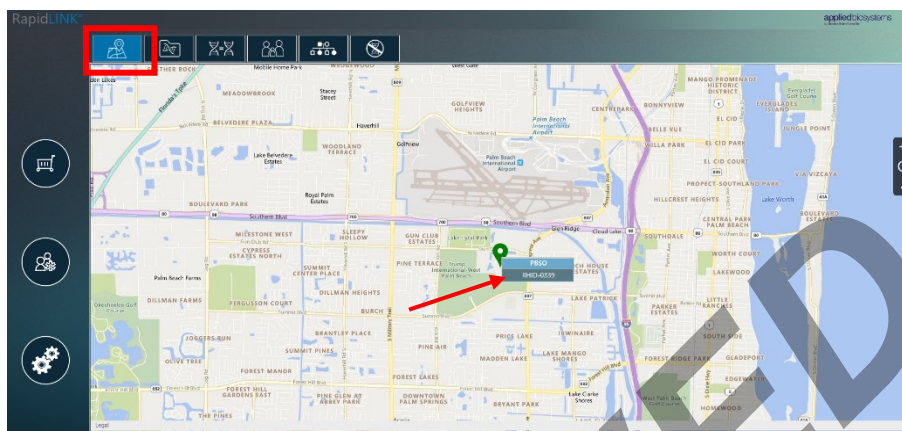
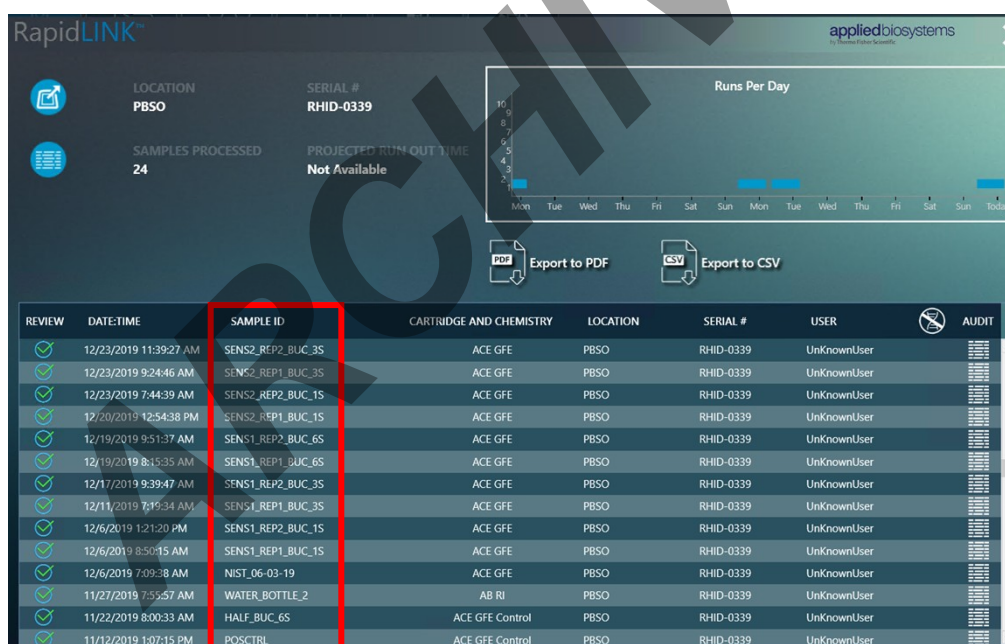

Figure 2. Selecting the specific instrument to display the list of sample runs
Figure 3. Selecting a sample from the RapidLINK™ software to view a sample in GeneMarker™ HID
2. To display the list of runs from a specific instrument, select the managing instrument icon, click a site pin (see arrow), and then select the instrument name (Figure 2). Once opened, a list of all of the runs performed by the instrument will be displayed (Figure 3).